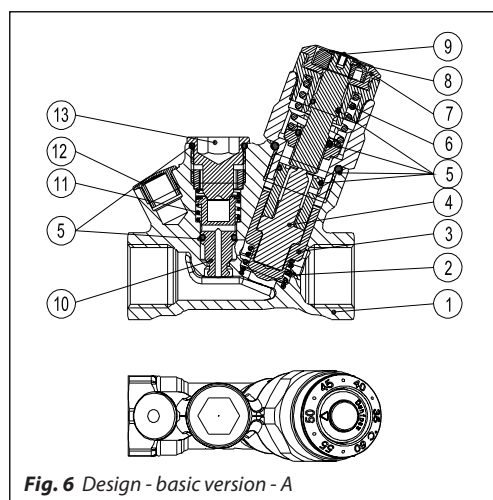
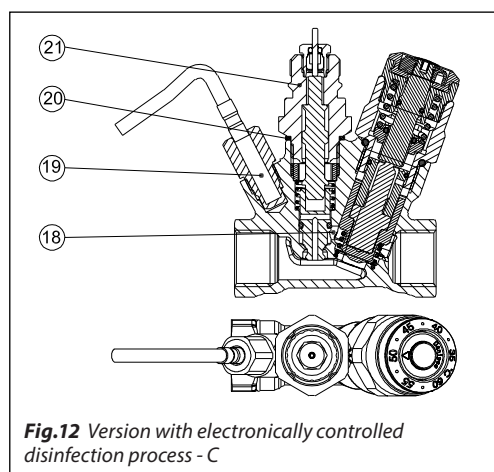

Fig. 6 Design - basic version - A
Fig.12 Version with electronically controlled disinfection process - C
The MTCV - is a thermostatic self-acting, proportional valve. A thermo-element (fig. 6 elem. 4) is placed in the valve cone (fig. 6 elem. 3) to react to temperature changes.
A safety spring (fig. 6 elem. 6) protects the thermo-element from being damaged when the water temperature exceeds the value on the set point.
After removing the plug from the disinfection plug (fig. 6 elem. 13)-(this can be done during working conditions, under pressure) the thermostatic disinfection module can be mounted (fig. 9 elem. 17).
- 1-13 As described in fig. 6
A temperature sensor PT 1000 has to be mounted in the thermometer head (fig. 12 elem. 19). Thermo-actuator and sensor are connected to the electronic regulator CCR2+ which allows an efficient and effective disinfection process in each circulation riser. The main regulation module works within the temperature range 35-60 °C. When the disinfection process/thermal-water treatment starts CCR2+ controls the flow through MTCV via thermo-actuators TWA. Benefits of an electronic regulated disinfection process with CCR2+ are:
After removing the disinfection plug (fig. 6 elem. 13) the adapter can be mounted (fig. 12 elem. 21) and the thermo actuator TWA can be mounted.